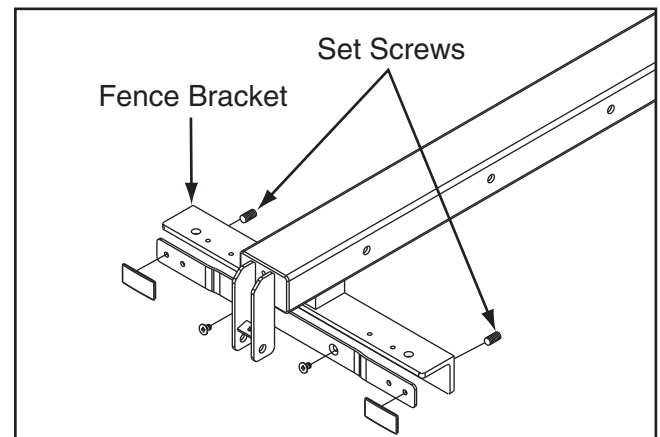

Figure 132. Location of set screws used to adjust fence parallelism and clamping pressure.
- Remove the fence and equally adjust the set screws shown in **Figure 132** as necessary, then re-install the fence and check the clamping pressure. Readjust as necessary until the fence will not move as pressure is applied against it.